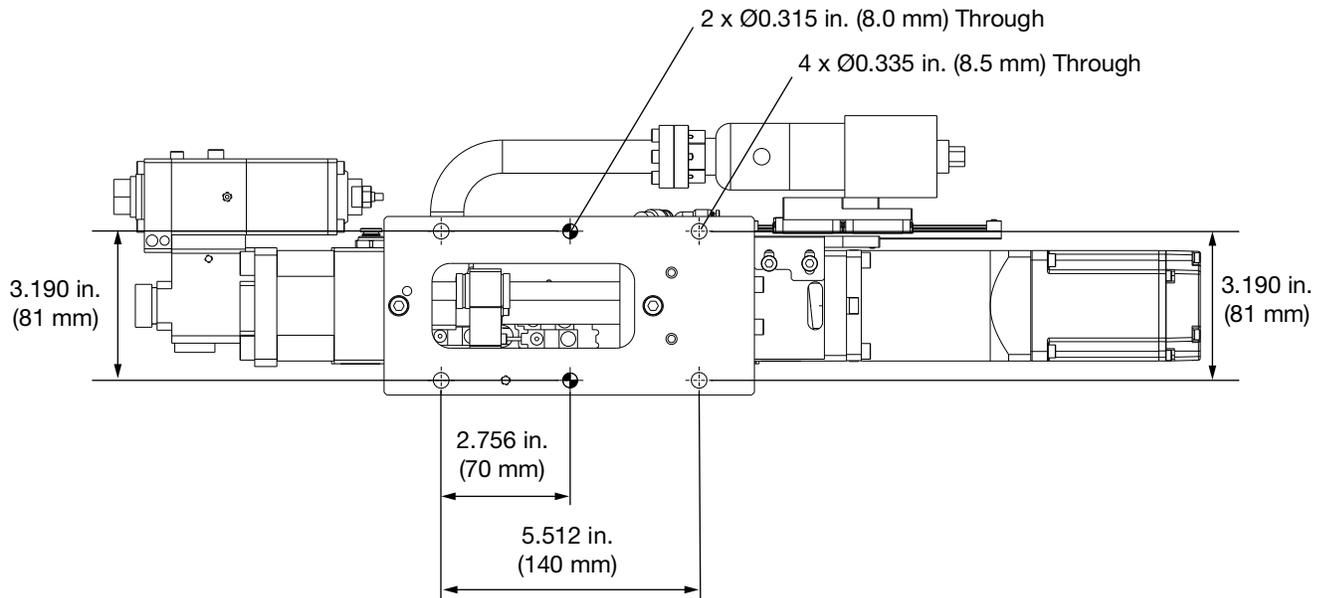
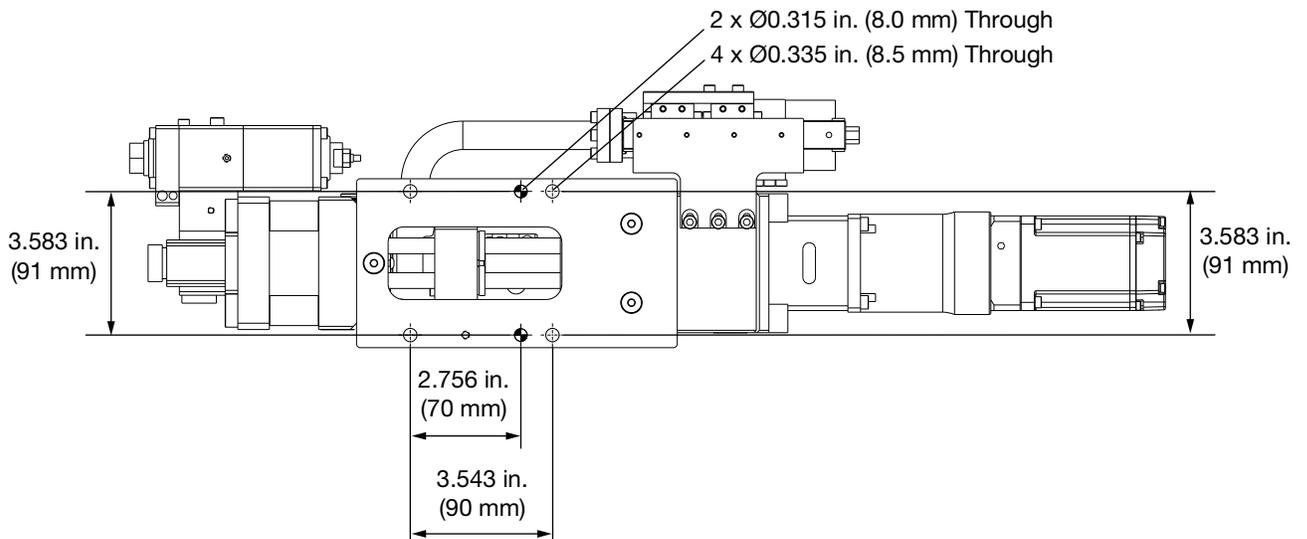
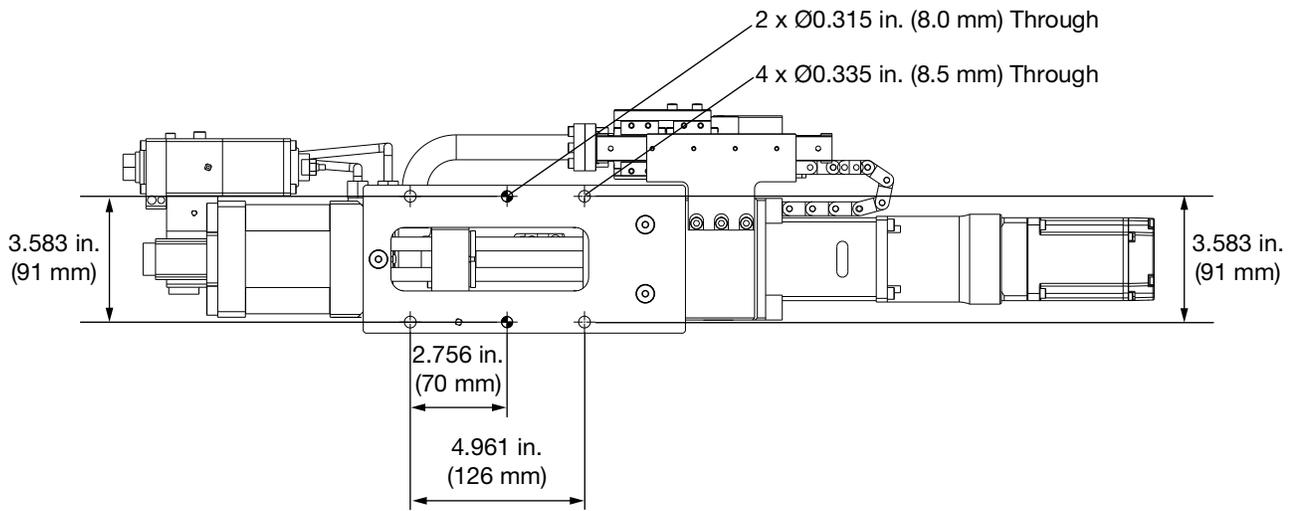

FIG. 4: Mounting Hole Dimensions for Installing the PSM Machine - 25cc
FIG. 5: Mounting Hole Dimensions for Installing the PSM Machine - 50cc
FIG. 6: Mounting Hole Dimensions for Installing the PSM Machine - 100cc
3. Attach the PSM Installation Plate (AC, page 8) to the selected location by installing fasteners (not provided with the PSM machine) through the four mounting holes. There are also two position pin holes. Refer to FIG. 4, FIG. 5 or FIG. 6 for mounting hole dimensions.